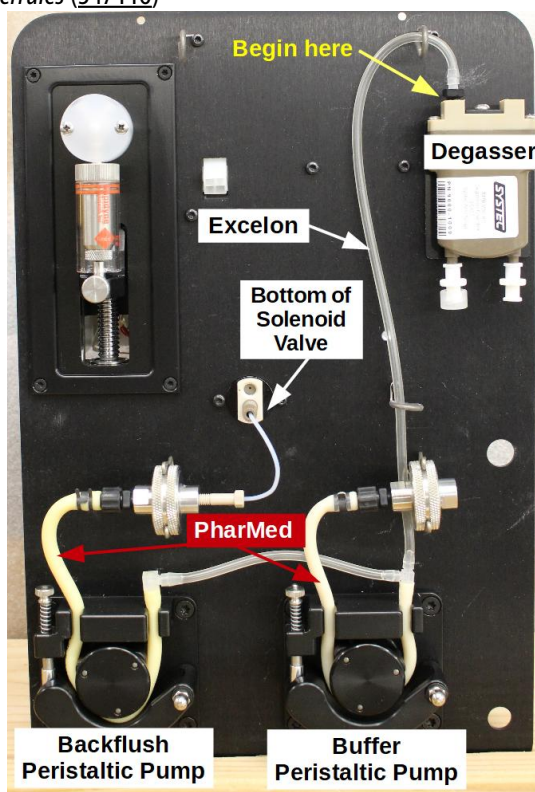

Figure 1. Installing the Peristaltic Pump Connection on the Plumbing Panel.
- Route the Excelon Tubing down through the Tubing Support, behind the Filter directly below the Tubing Support, and then neatly insert the PharMed Tubing into the Buffer Peristaltic Pump as shown in Figure 1.
- Route the Excelon Tubing that branches off the first connection, behind the PharMed Tubing exiting the Buffer Peristaltic Pump, to the Backflush Peristaltic Pump, and neatly insert the next section of PharMed Tubing as shown in Figure 1.